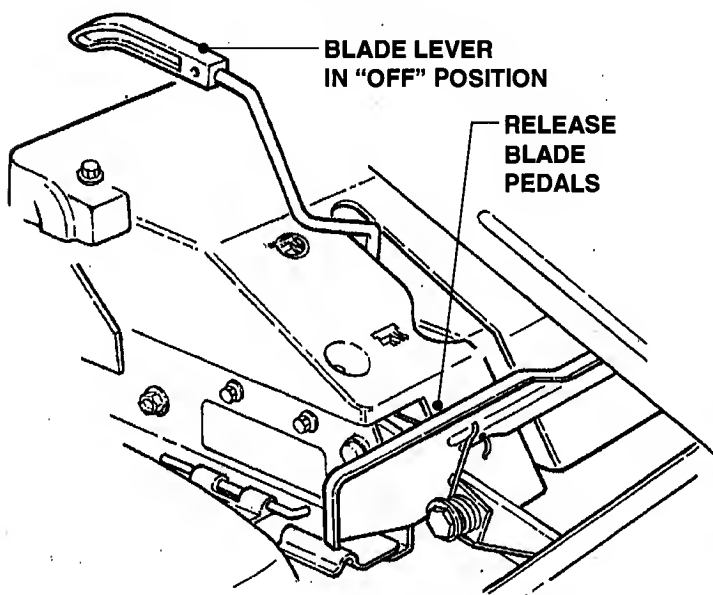
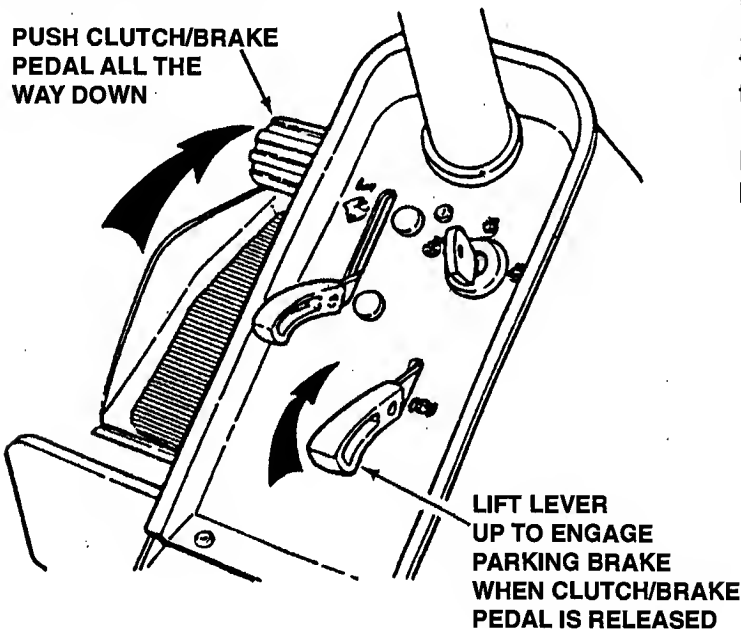

FIGURE 2.4
FIGURE 2.8
2. Make certain the Blade Lever is in the "OFF" position. See Figure 2.4.
IMPORTANT: When the ignition key is turned to "RUN", and the recoil handle is pulled, the engine will turn over, but will not start unless the Clutch/Brake Pedal is pressed all the way down with Parking Brake engaged (See Figure 2.8) and the Blade Lever is in the "OFF" position (Refer to Figure 2.4). Start engine as follows:
2. Make certain the Blade Lever is in the "OFF" position. Refer to Figure 2.4.
3. Press Clutch/Brake Pedal all the way down, lift Parking Brake Lever and release the Clutch/Brake Pedal to set Parking Brake. See Figure 2.8.